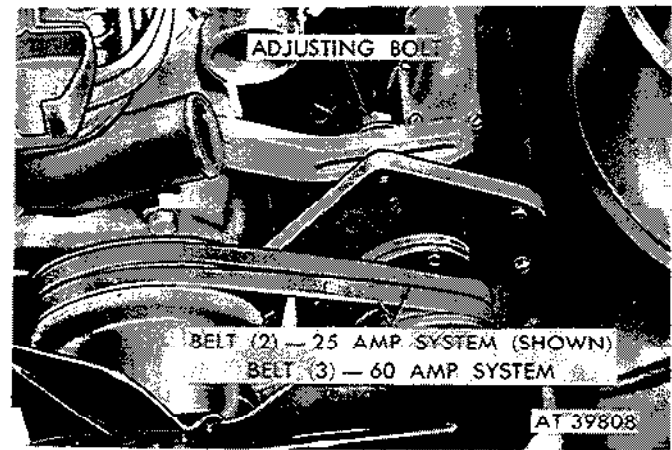

Figure 2-139. Reposition generator prior to removal of drive belts.
(1) Loosen generator mounting bolts on bottom of generator and loosen adjusting bolt, move generator toward engine (fig. 2-139).